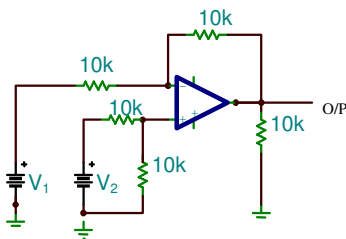

Fig. 4e Subtraction circuit (two dc signal)
6. Make the circuit as in Fig 4e. Choose both input signals as dc signal. Let V_1 be 1V. Choose V_2 as $\pm 1V$. Verify the subtraction operation.